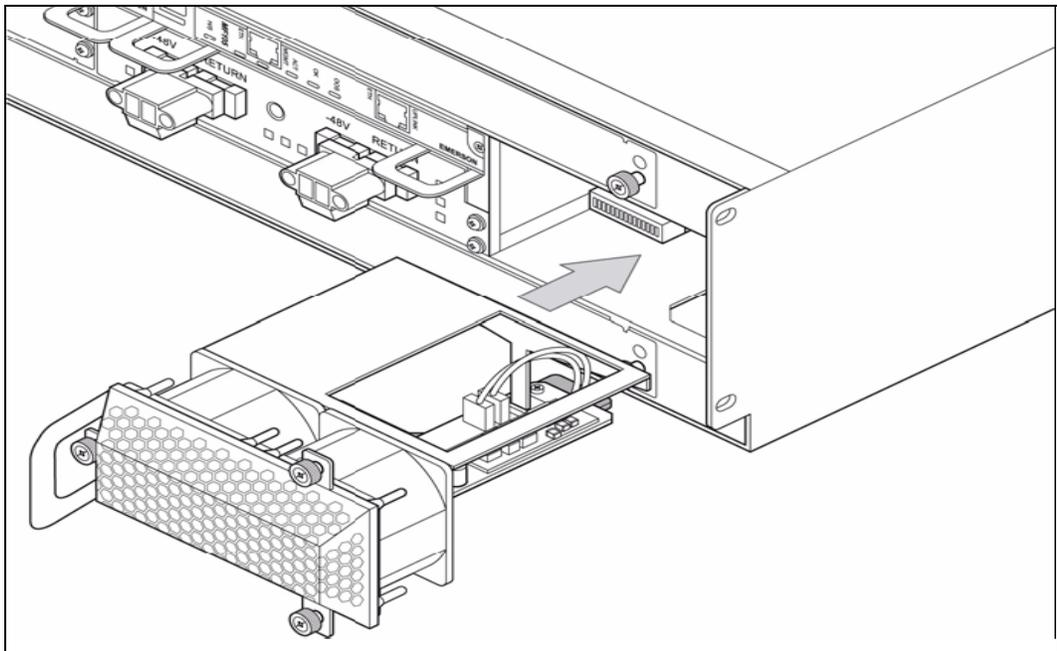

Figure 5.8 - Rear Fan Tray
6. Slide the tray into the slot until you feel resistance (see Figure 5.8). The fans start rotating during this step.